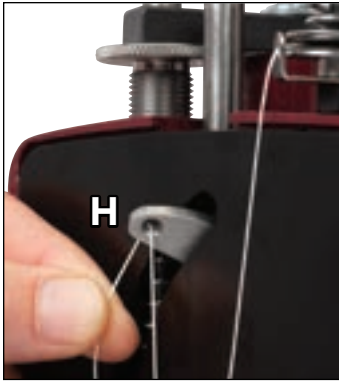

Figure 9
- 4) Run thread back up the front of the machine and through the Take-Up Arm (H). Make sure thread is run in front of the Tension Bar (I) at this point. (Figure 9)